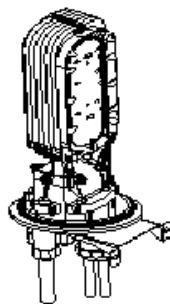

Figure 5
4.1 Fixed cable and heat shrinkable fixing sleeve according to the picture below. See figure 3, figure5.
See figure 5